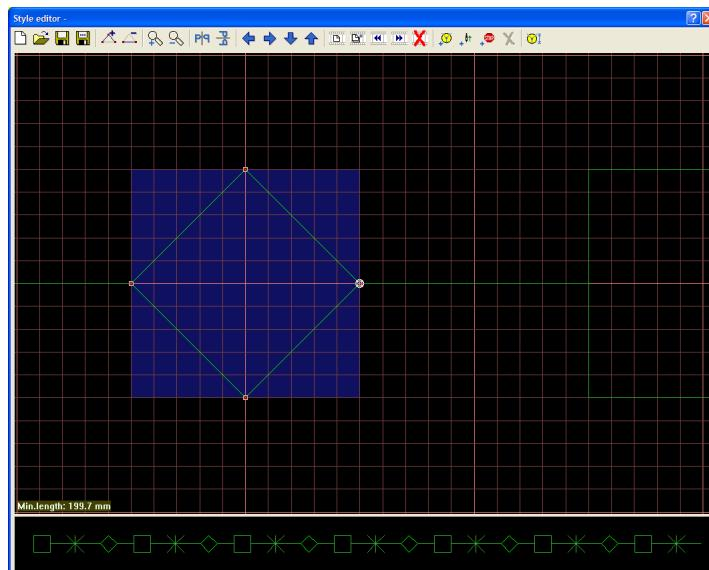

Figure 9.7: Step 6
6. Select the “Previous Frame Icon”. And start creating a “Diamond” design like the one shown below (Figure 9.7).